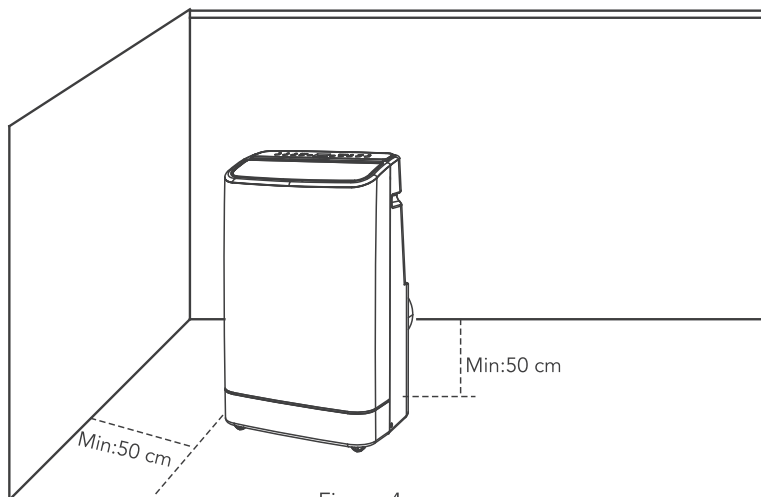

Figure 4
- Move the unit with installed heat pipe and fittings before the window, and the distance between the body and walls or other objects shall be least 50 cm (as shown in Fig.4).